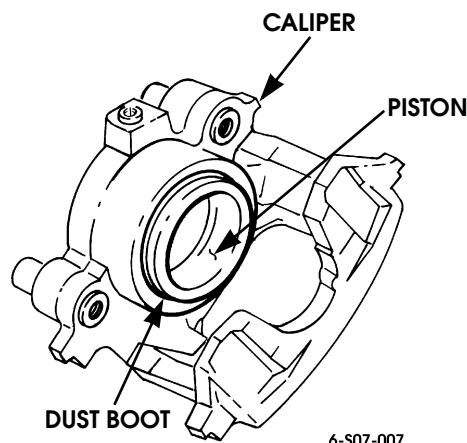

Figure 7-6: Caliper Assembly
1. Inspect dust boot for tears or deterioration (Figure 7-6).
2. Inspect caliper and caliper piston for pitting, or damage (Figure 7-6).
1. Install a washer and coupling to caliper (Figure 7-6).